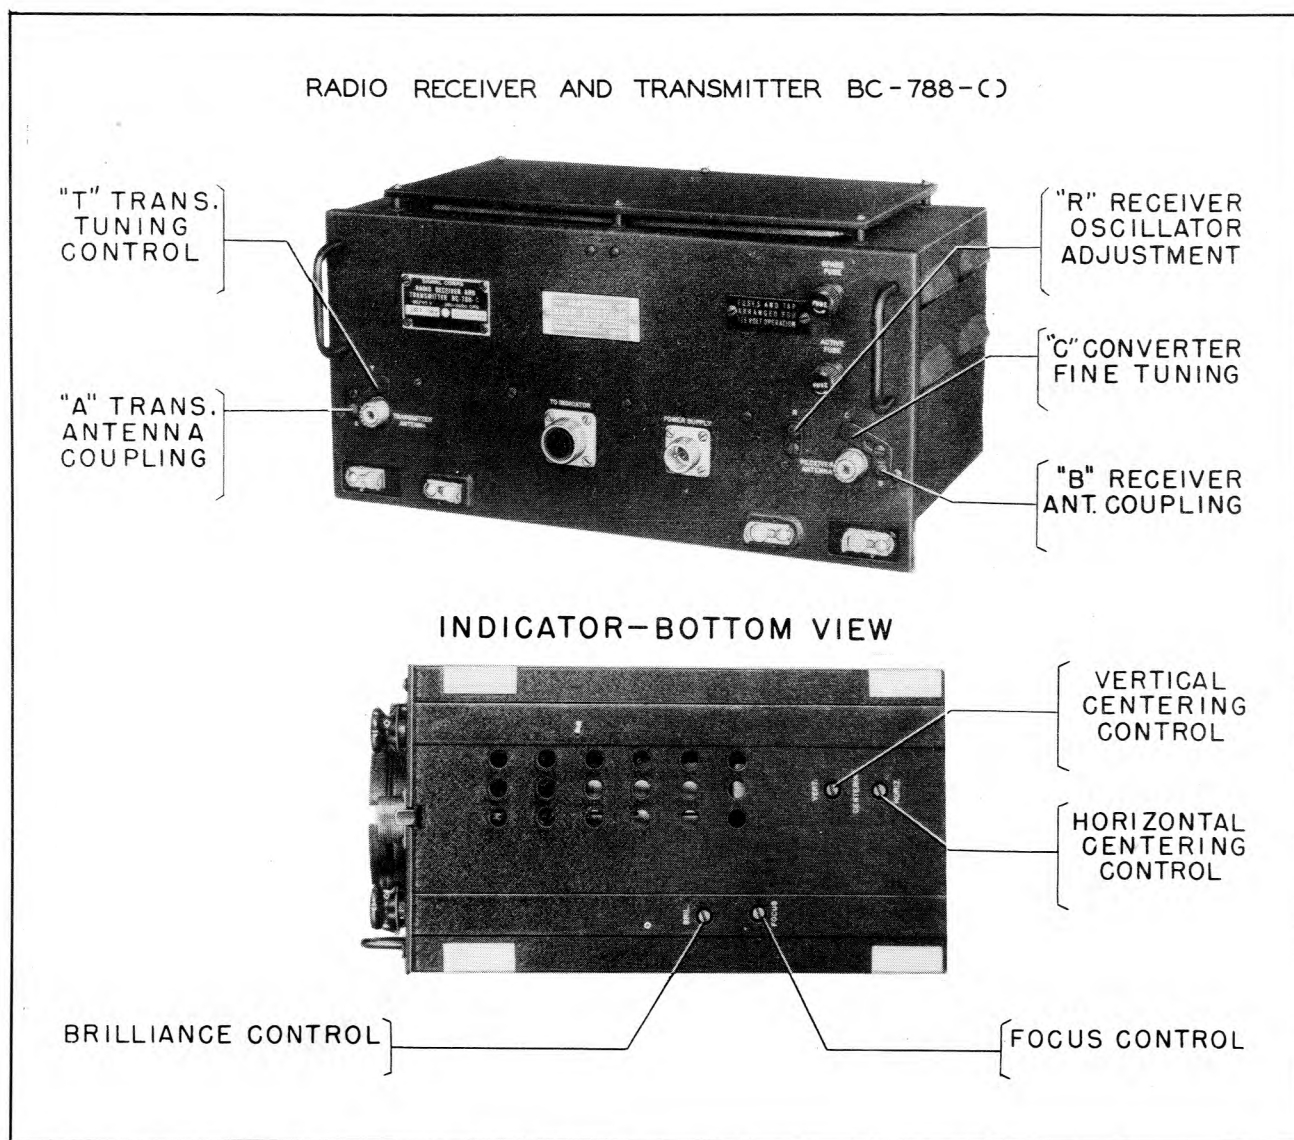

Figure 3-6. Radio Set SCR-718-( )—Adjustment Locations
(1) Adjust transmitter tuning control "T" by means of Test Set TS-23/APN. (See fig. 3-6.)
(2) Adjust transmitter antenna coupling capacitor "A" for maximum output as indicated on a sensitive ultra-high-frequency wavemeter, field strength indicator, or for maximum output as indicated by Test Set TS-23/APN.
(3) The transmitter output coupling loop is pre-set.
(2) Adjust receiver oscillator adjustment "R" for maximum pulse height, consistent with the narrowest and sharpest pulse possible. Maintain a 1-1/4-inch delayed pulse height by readjusting the attenuator as required. (See fig. 3-6.)
(3) Adjust converter fine tuning control "C" to maximum output and narrowest delayed pulse on indicator.
(4) Adjust converter coarse tuning control only if "C" will not peak.
(5) Adjust antenna coupling control "B" for maximum amplitude and narrowest delayed pulse.
(6) Coupling loop position is not critical and re-adjustment should not be required; it has been adjusted for maximum amplitude and narrowest altitude pulse.
(7) Intermediate-frequency transformer adjustments are sealed at the factory.